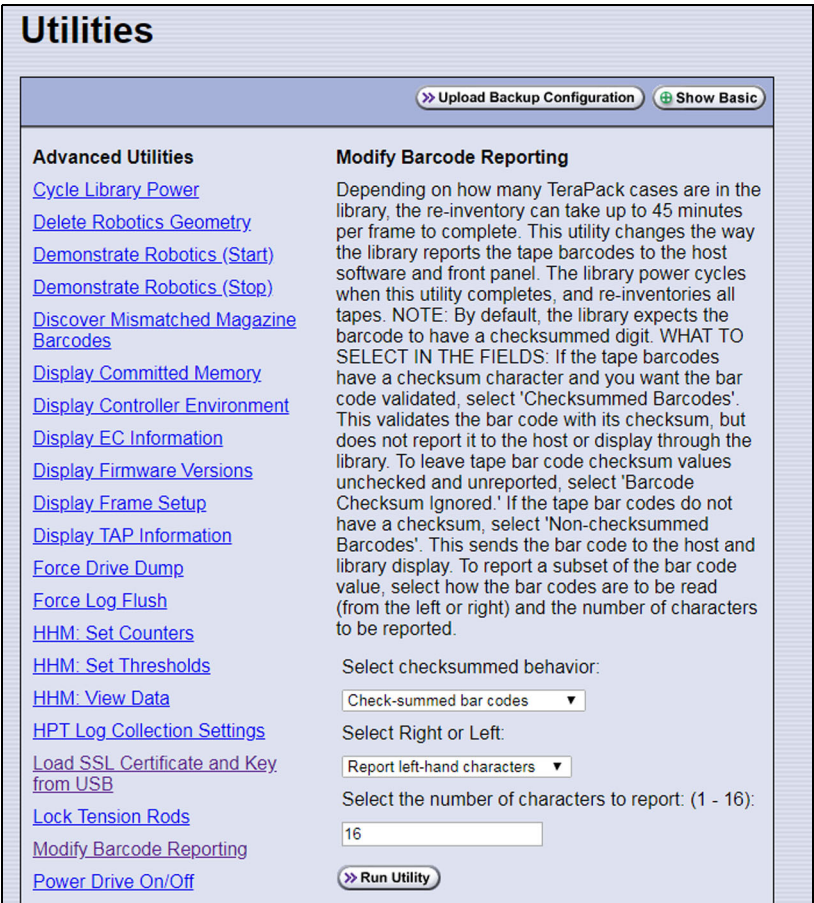

Figure 57 Use the Modify Barcode Reporting utility to change how the library handles barcode labels.
- 6. Select the **Modify Barcode Reporting** utility. The screen refreshes to show information about the utility. Figure 57 shows the default settings.